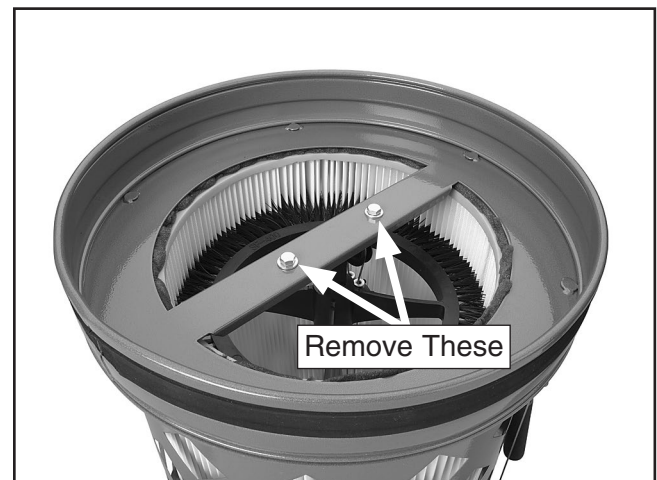

Figure 64. Cross support fasteners.
6. With help from another person to steady the canister assembly, turn it upside down and remove the two hex bolts, hex nuts, and flat washers from the cross support (see **Figure 64**), then remove the canister base from the assembly.